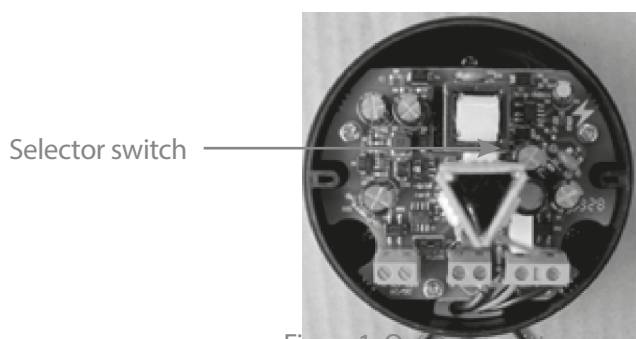

Figure 1: One transmitter controls 1 Receivers
1) Learning method of 1 transmitter controls one receiver: power off and open the remote control receiver shell, insert the jumper cap as shown in Figure 1, and then connect the remote control power supply, press code matching key of the remote receiver until the receiver power supply lamp lights, and press any key on the transmitter until the main receiver power supply lamp flicks, then release the key of the transmitter, learning code matching is completed.